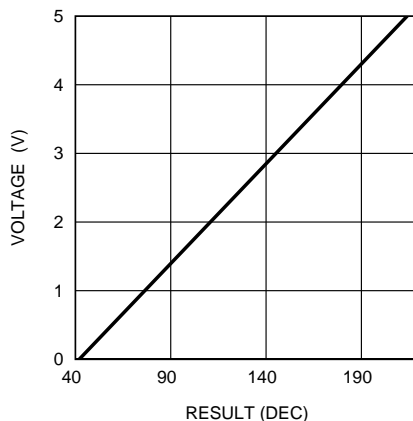

Figure 24. LED Test Results vs Measured Voltage
- This is used to store the LED test result. Read-only register. LED test ADC's least significant bit corresponds to 30 mV. The measured voltage V (typical) is calculated as follows: $V = (\text{RESULT(DEC)} \times 0.03 - 1.478 \text{ V})$. For example, if the result is 10100110 = 166(DEC), the measured voltage is 3.5 V (typical). See Figure 24.